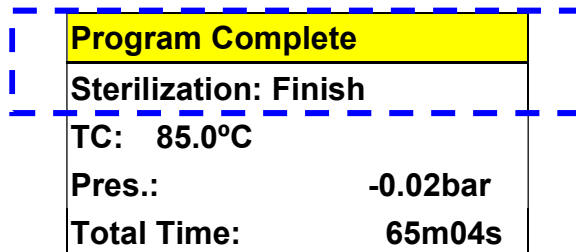

Figure 118- Program Complete
G. On completion, the buzzer will sound and the Program Complete message is displayed as shown in Figure 118- Program Complete.